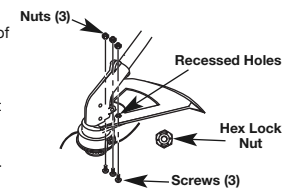

Fig. 3
- Place one of the three (3) supplied hex lock nuts into one of the three recessed holes on the top of the cutting attachment shield (Fig. 3).
- Install a screw into the hole from the bottom of the cutting attachment shield. Screw it into the nut installed in step 2 until it is started (Fig. 3). Do not tighten.